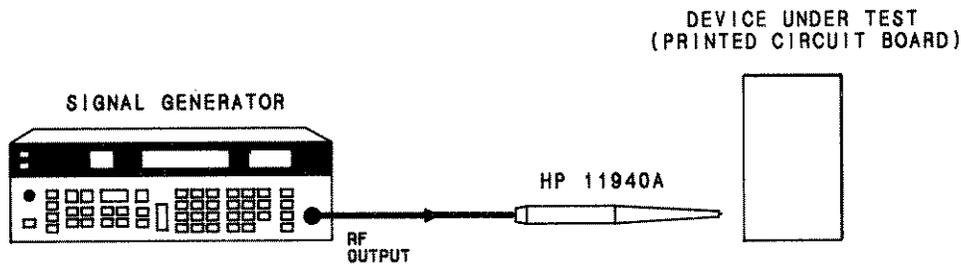

Figure 6. Source Test Setup
**3-16. Source Test Setup:** Used as a field source, the probe provides a magnetic field for susceptibility testing of electronic circuits. For broadband susceptibility testing, use the probe with a swept or tracking source. See Figure 6 for an example of the basic localized field source test setup.